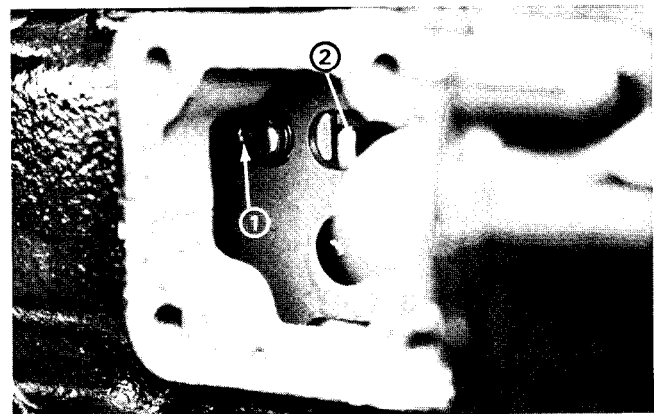

Figure 29
4. Thread the solenoid into the engine while moving the tie rod back and forth (Fig. 29). Stop screwing the solenoid into the engine when there is no free play in the tie rod.